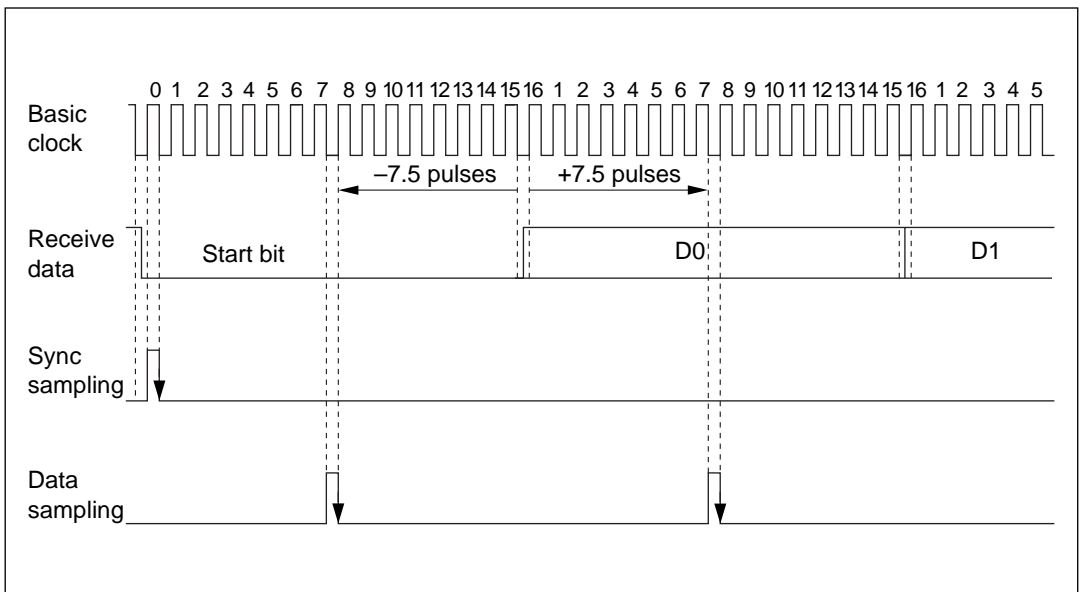

Figure 11-18 Sampling Timing (Asynchronous Mode)
(4) Sampling Timing and Receive Margin in Asynchronous Mode: The serial clock used by the SCI in asynchronous mode runs at 16 times the baud rate. The falling edge of the start bit is detected by sampling the RxD input on the falling edge of this clock. After the start bit is detected, each bit of receive data in the frame (including the start bit, parity bit, and stop bit or bits) is sampled on the rising edge of the serial clock pulse at the center of the bit. See figure 11-18.